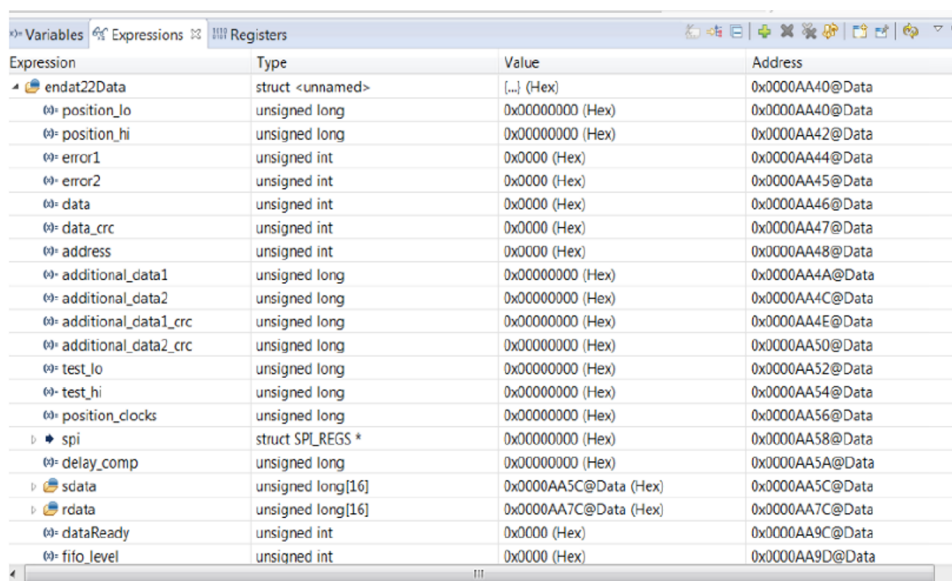

Figure 14. Properly Configured Watch Window
2. For this project, browse to the root directory and select *Pm_endat22_BasicPosAcc_DelComp_VAR.txt*, and click *OK* to import the variables as shown in Figure 14.
4. Each variable uses the number format that the variable is associated with during declaration. The variable can be changed to another number format right-clicking on it. Figure 14 shows a typical expressions window.